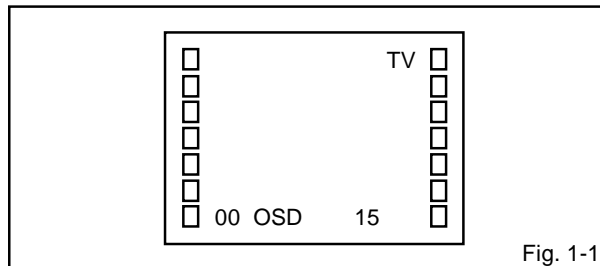

Fig. 1-1
1. In the condition of NO indication on the screen. Press the VOL. DOWN button on the set and the Channel button (**9**) on the remote control for more than 1 second to appear the adjustment mode on the screen as shown in **Fig. 1-1**.
4. Activate the adjustment mode display of **Fig. 1-1** and press the channel button (**02**) on the remote control to select "RF.AGC".
3. Activate the adjustment mode display of **Fig. 1-1** and press the channel button (**01**) on the remote control to select "CUT OFF".
4. Activate the adjustment mode display of **Fig. 1-1** and press the channel button (**10**) on the remote control to select "R. BIAS".
4. Activate the adjustment mode display of **Fig. 1-1** and press the channel button (**03**) on the remote control to select "V.VCO".
2. Activate the adjustment mode display of **Fig. 1-1** and press the channel button **(05)** on the remote control to select "H.PHAS".
3. Activate the adjustment mode display of **Fig. 1-1** and press the channel button **(06)** on the remote control to select "V.SIZE".
2. Activate the adjustment mode display of **Fig. 1-1** and press the channel button **(07)** on the remote control to select "V.SFT".
1. Activate the adjustment mode display of **Fig. 1-1**.
1. Activate the adjustment mode display of **Fig. 1-1** and press the channel button **(13)** on the remote control to select "BRI.CENT".
2. Activate the adjustment mode display of **Fig. 1-1** and press the channel button **(22)** on the remote control to select "TINT".
1. Activate the adjustment mode display of **Fig. 1-1** and press the channel button **(17)** on the remote control to select "CONT.MAX".